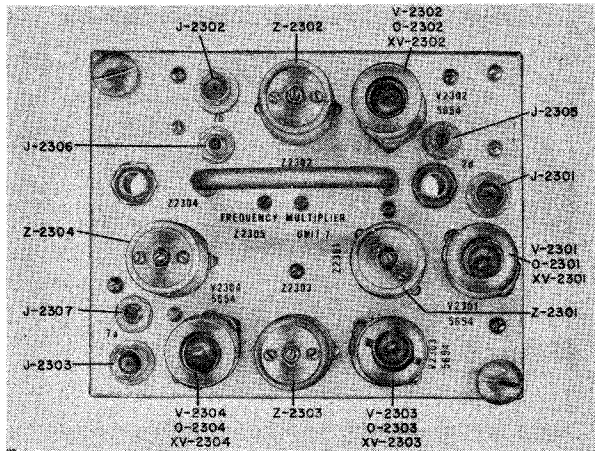

Figure 7-32. RFO, Unit 7 (Z-2305), Top View
(1) ELECTRICAL ADJUSTMENTS.—In unit 7, the eight adjustments that may be made are the top and bottom slugs of Z-2301, Z-2302, Z-2303, and Z-2304 (figures 7-32 and 7-33).